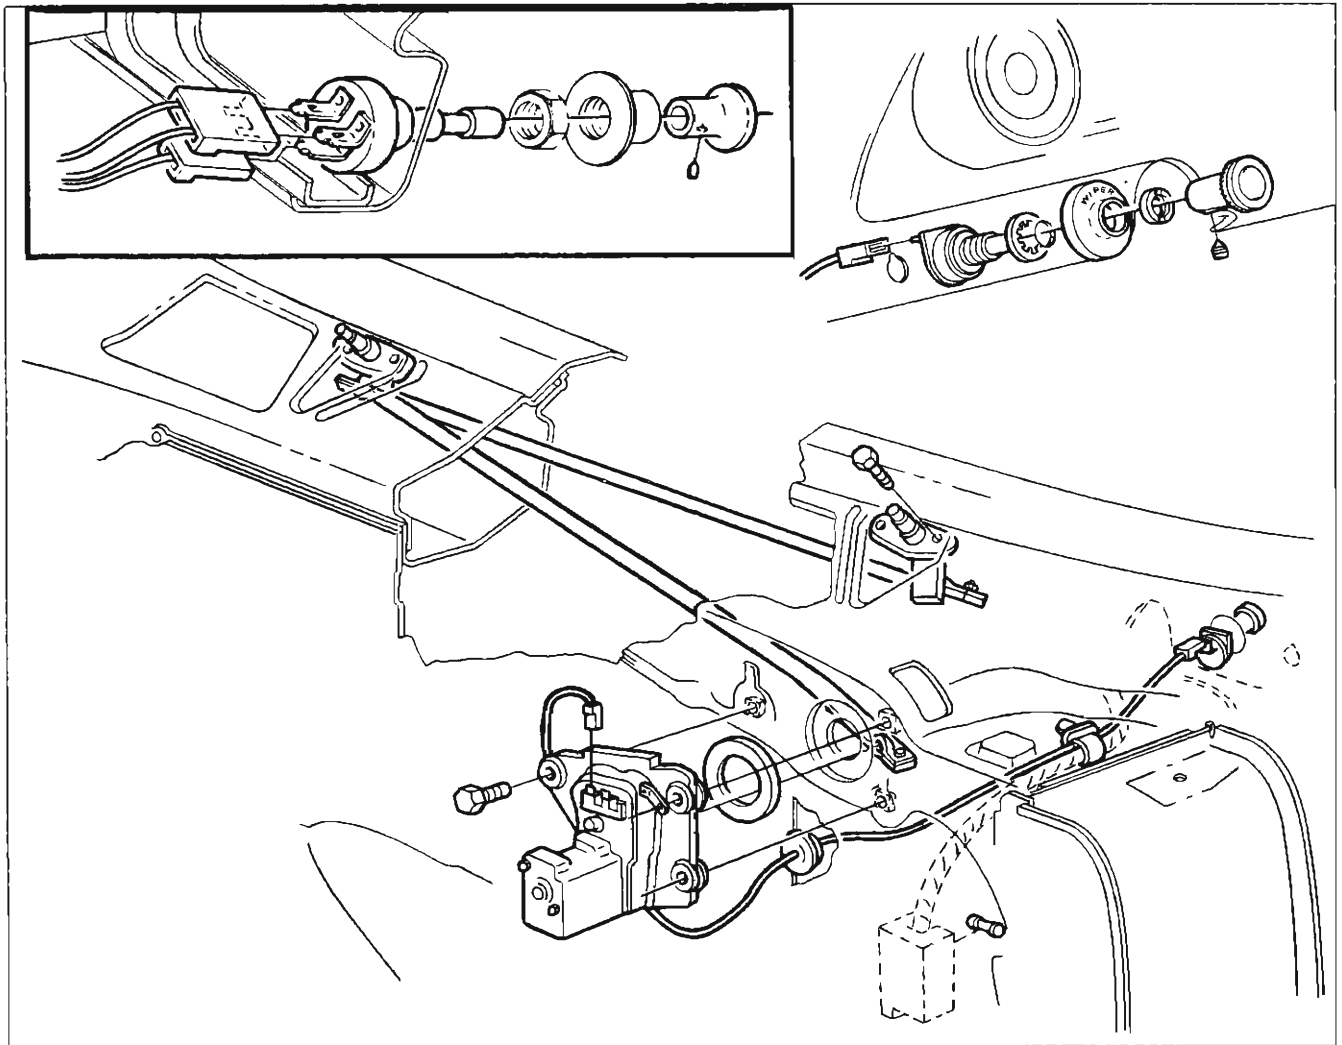

Fig. 45—Windshield Wiper Motor and Linkage Assy. (Chevrolet)
#### REMOVAL AND INSTALLATION (FIG. 45)
**WIPER MOTOR ASSEMBLY (CHEVROLET)****REMOVAL AND INSTALLATION (FIG. 45)**